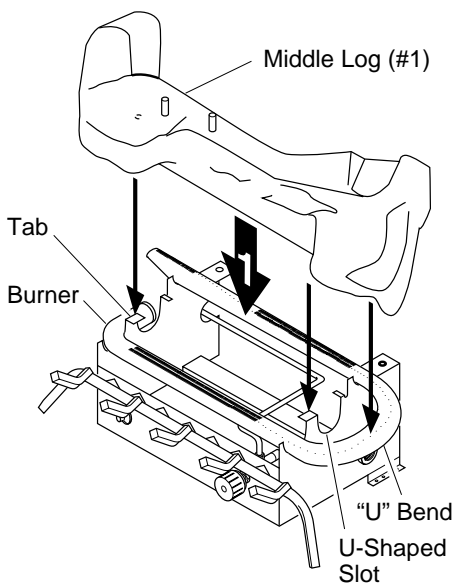

Figure 21 - Installing Middle Log (#1)
- Place the base of the middle log (#1) in the U-shaped slots of the grate base. The cutout on the right of the middle log should sit over the burner (see Figure 21). Make sure the front of the middle log is resting on the tabs of the grate base and the cutout area is centered over the burner "U" bend.